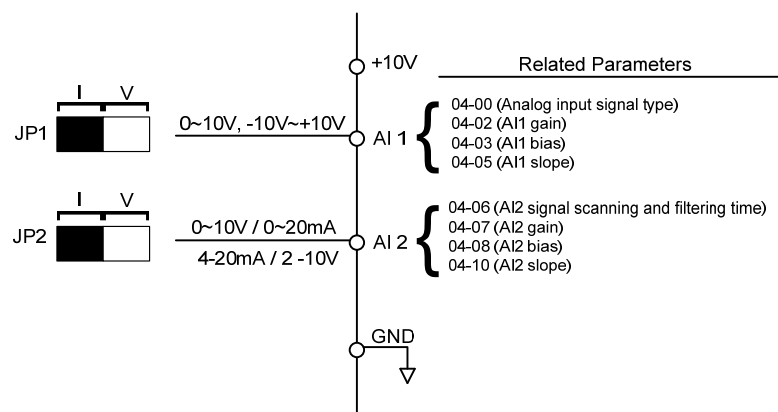

Figure 4.3.35 Analog inputs and related parameters
(1) Analog input level adjustment AI1/AI2(04-02, 04-03,04-07, 04-08)
- Analog input signal AI1 can be adjusted with parameter 04-02 and 04-03. Analog input signal AI2 can be adjusted with parameter 04-07 and 04-08. Refer the figure 4.3.35 .